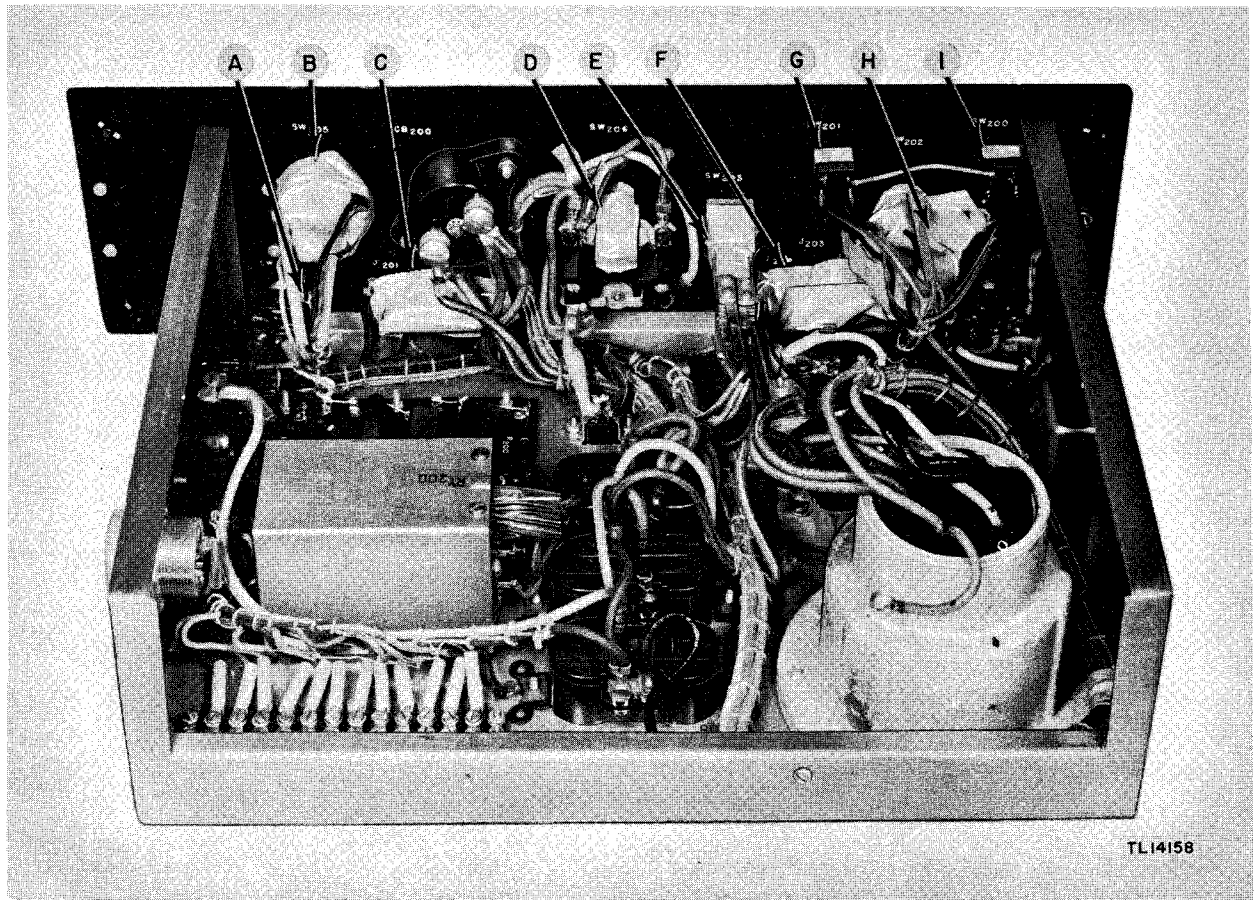

Figure 39. Junction Box JB-70-A—top interior view of chassis, showing method of masking.
b. DISASSEMBLY. (1) Loosen four fasteners and remove junction box from its case. Disconnect the four wires attached to the terminal strip on the inside rear of the junction box.
(2) Clean all dirt, dust, rust, fungus, oil, grease, etc., from the equipment to be processed.
c. MASKING. Cover the following components with masking tape as shown in figures 39 and 40.
(1) Holes in case of receiver output switch SW204, item A, figure 39.
(2) Contacts of wafer switch SW205, item B, figure 39.
(3) Three jacks J201, J204, and J205, item C, figure 39.
(4) Contacts of push-button switch SW206, item D, figure 39.
(5) Contacts of transmitter receiver switch SW203, item E, figure 39.
(6) Three jacks J200, J202, and J203, item F, figure 39.
(7) Holes in case of receiver disabling switch SW201, item G, figure 39.
(8) Contacts of wafer selector switch SW202, item H, figure 39.
(9) Holes in case of receiver disabling switch SW200, item I, figure 39.